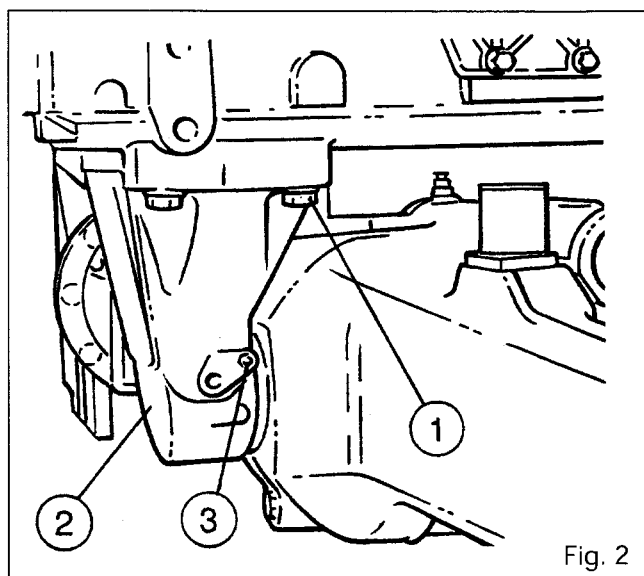

Fig. 2
6. Remove the grease nipple (3) and the bolts (1). Remove the bearing (2) (Fig. 2), the washer (4) and the seal (9).